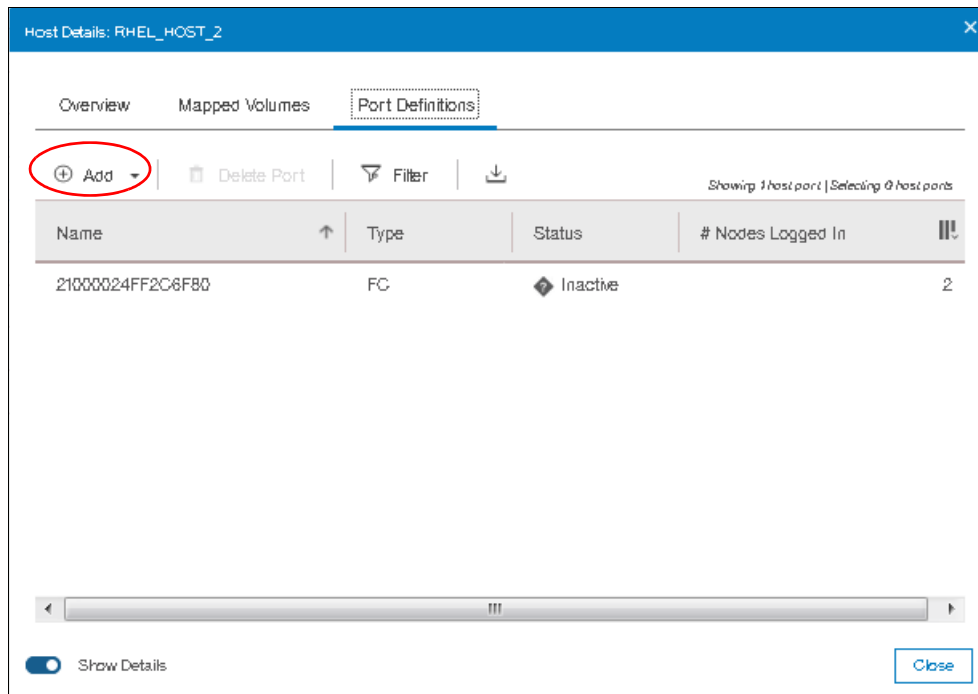

Figure 8-30 Add host port
1. Click **Add** as shown in Figure 8-30 on page 368.